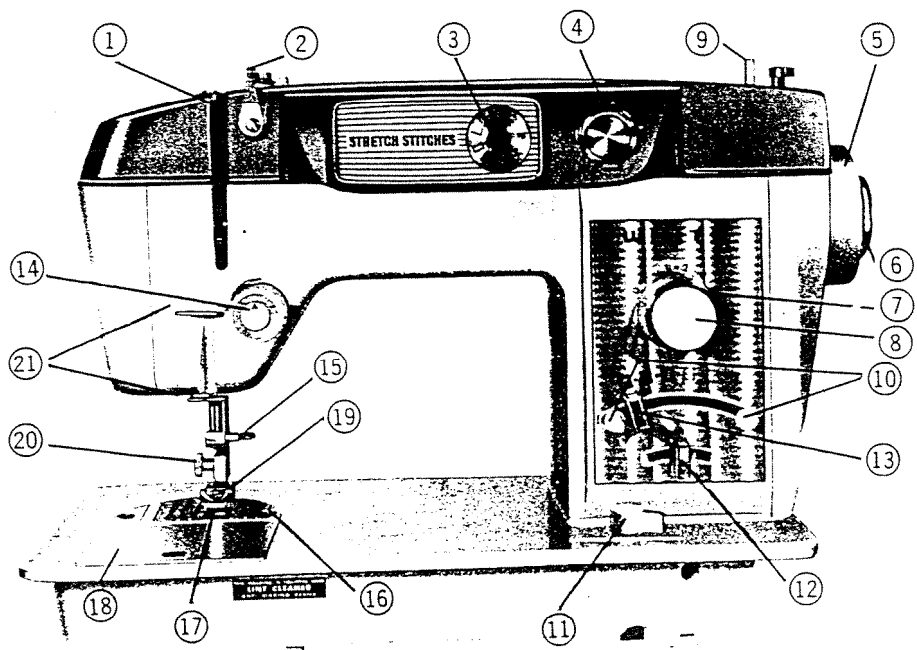
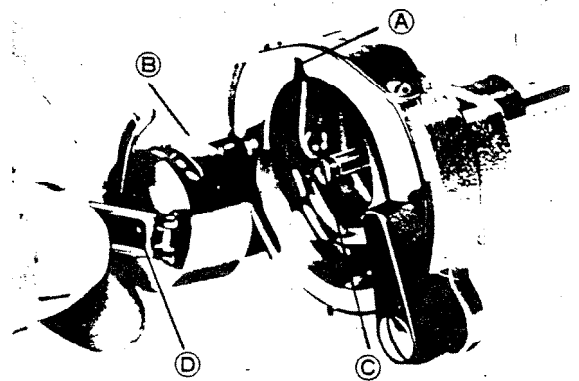

Fig. 1
Fig. 10
Raise needle bar to highest position, and open cover plate. (See 18 Fig. 1) Hold the bobbin case latch (D, Fig. 10), between the thumb and forefinger of the left hand, with at least three inches of thread running from the top of the bobbin case to the left. Insert and center the bobbin case on the stud of the shuttle body, (C). Be sure the bobbin case finger is opposite the shuttle race notch, (A).